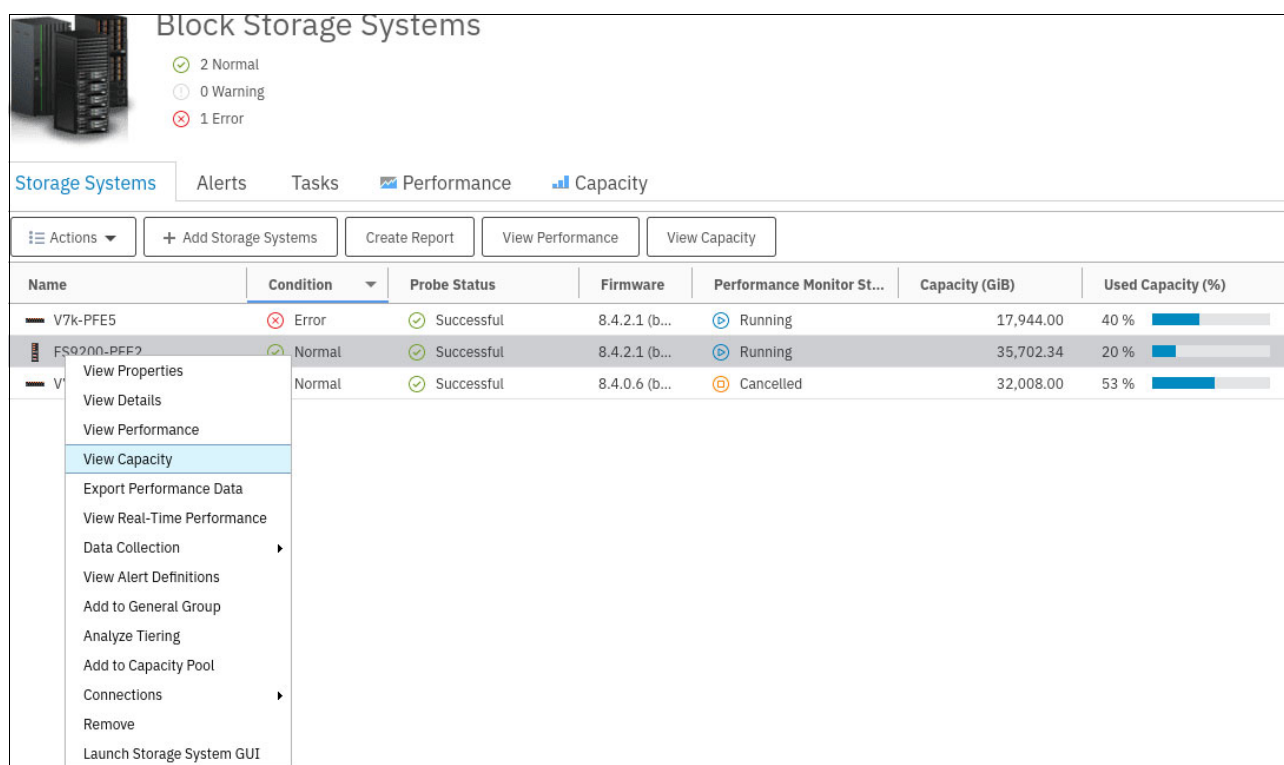
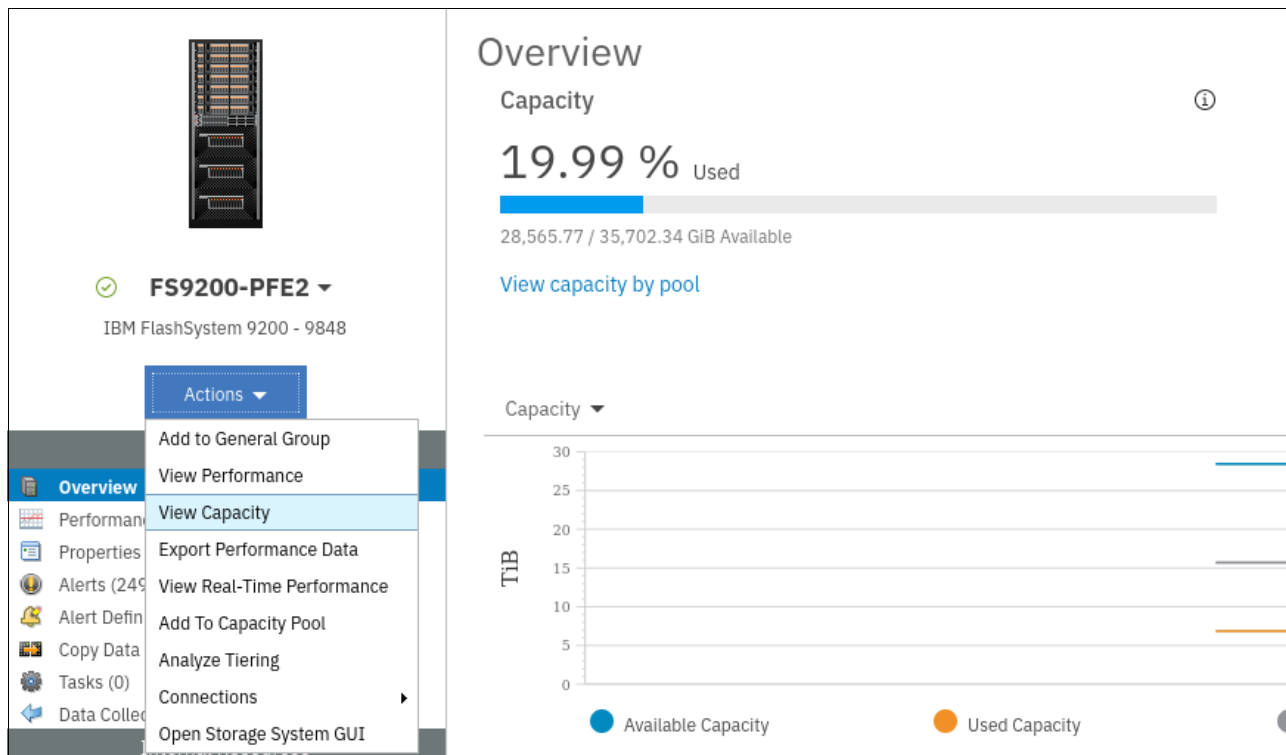

Figure 9-48 Block Storage Systems overview
Figure 9-49 Capacity overview of Storage System
1. To open the Capacity View in IBM Spectrum Control, click **Storage**, and then click **Block Storage Systems**. Right-click one or more storage systems and click **View Capacity** (see Figure 9-48).
2. You can also click **View Capacity** on the **Actions** menu (see Figure 9-49) of each device.
3. To open the Capacity view in IBM Storage Insights, use the **Resources** menu. The rest of the sequence is similar to IBM Spectrum Control with some minor cosmetic differences (see Figure 9-48 on page 510 and Figure 9-49).